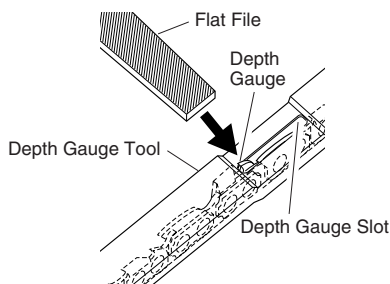

Figure 22 - Depth Gauge Tool On Chain
1. Place depth gauge tool (.025") firmly across top of two cutters. Make sure depth gauge enters slot in depth gauge tool (see Figure 22).